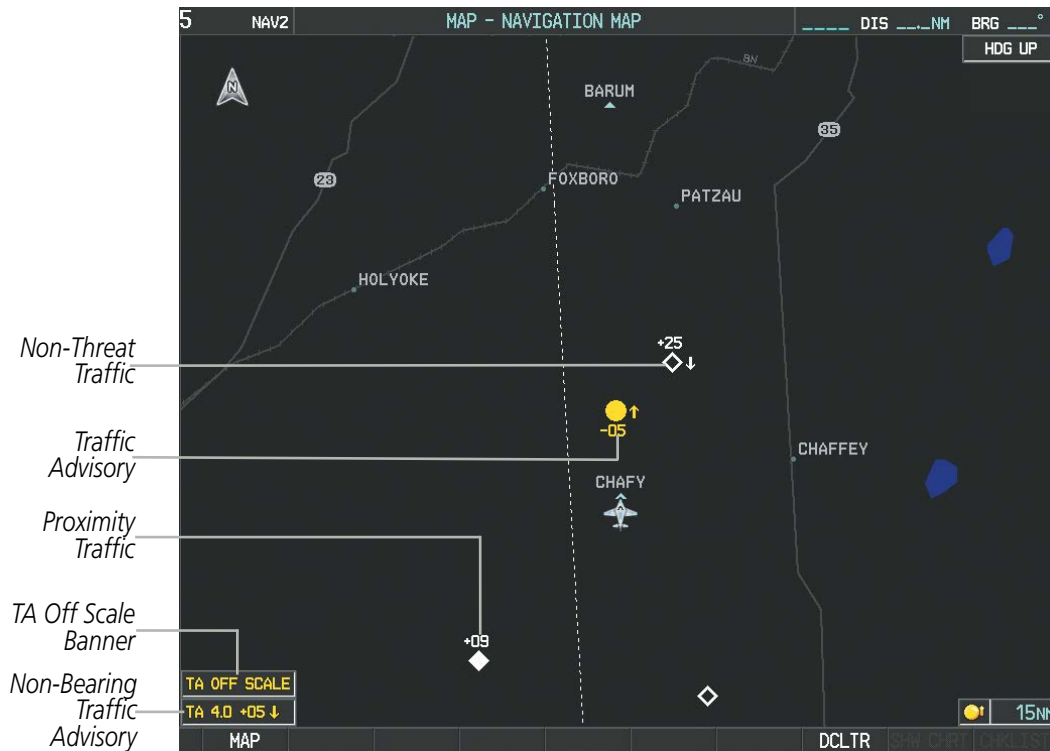

Figure 6-177 TAS Traffic on Navigation Map
- 2) Press the **TRAFFIC** Softkey. Traffic is now displayed on the map as shown in Figure 6-177.